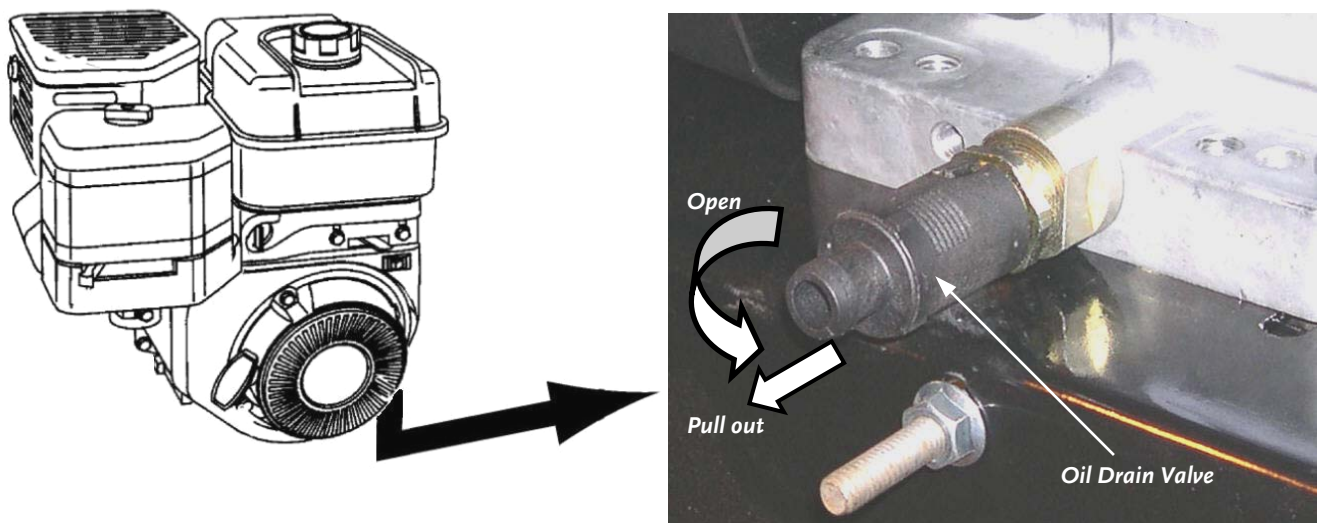

Figure 7
NOTE 1: The Engine is equipped with a Drain Valve for ease in changing the oil (**Figure 7**).
1. Position a suitable oil receptacle under the Engine Oil Drain Valve (located at the Handlebars side of the Engine) and remove the Engine Oil Fill Cap (**Figure 7**).
2. Open the Engine Oil Drain Valve by twisting the valve end counterclockwise and then pull out (**Figure 7**). Allow the used oil to drain completely, and then close the Drain Valve (push in and turn clockwise).